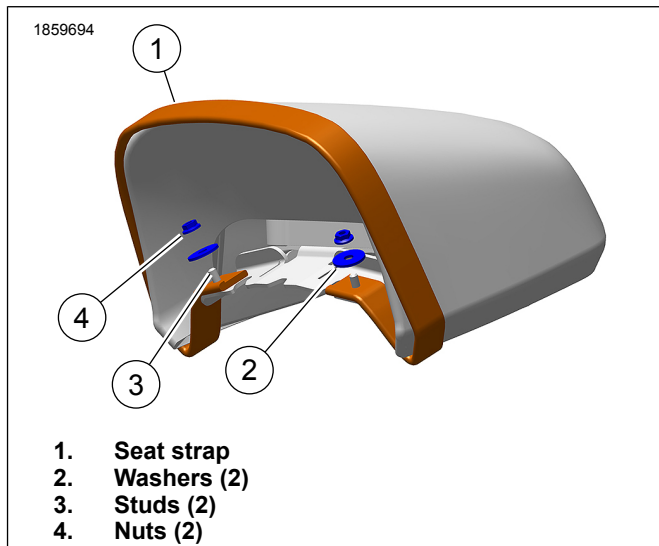

Figure 2. Remove Seat Strap
1. **Models with a passenger pillion:** See Figure 2. Remove seat strap.
- a. Remove nuts (4) and washers (2).
- b. Remove seat strap (1) from studs (3).